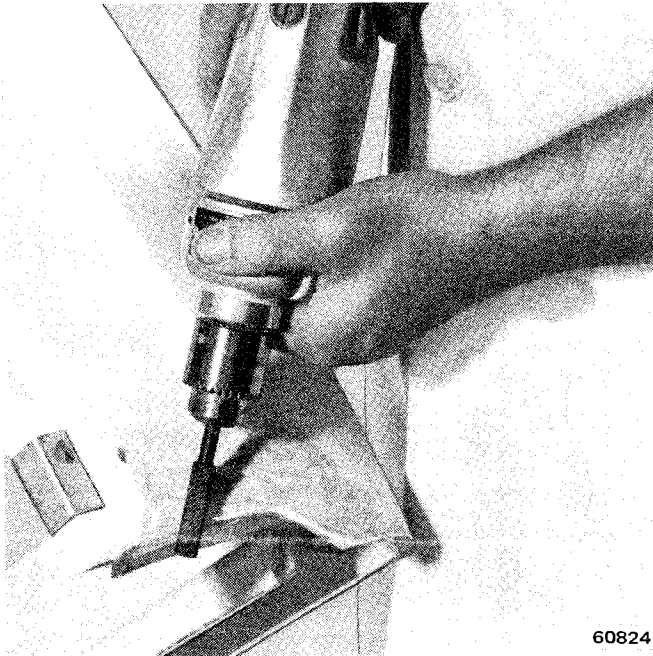

Fig. 3P-3 Beveling Edges of Broken Piece with Rotary File
- (3) Clamp broken piece into place leaving a 1/16-inch gap along break line.
- (4) Mix Structural Adhesive, according to manufacturer's instructions, apply liberally to break as shown in figure 3P-4.
- (5) Use an air file or hand file board for shaping of hardened Structural Adhesive.
- (6) Apply sealer and color coat (refer to Paint Repair Procedure).